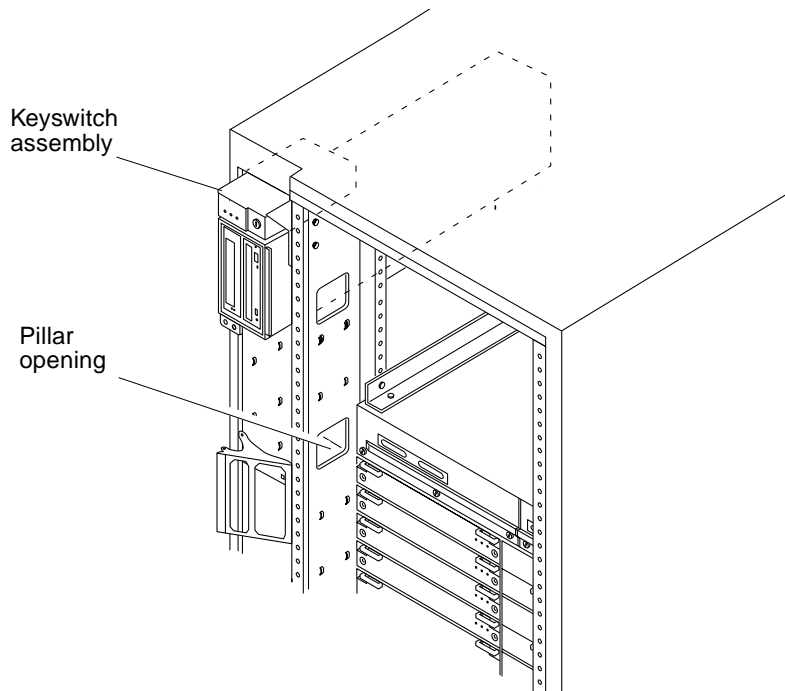

FIGURE 13 Pillar Opening for Cable Routing
1. Route the new keyswitch cable included in the upgrade kit through the opening in the cabinet pillar below the SCSI tray (FIGURE 13). Do not connect the cable to the keyswitch at this time.